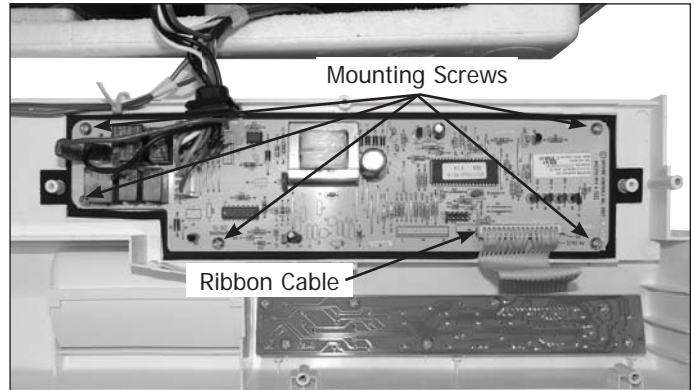

Figure 4-4.
6. Remove screws mounting control board to console. (See Figure 4-4)